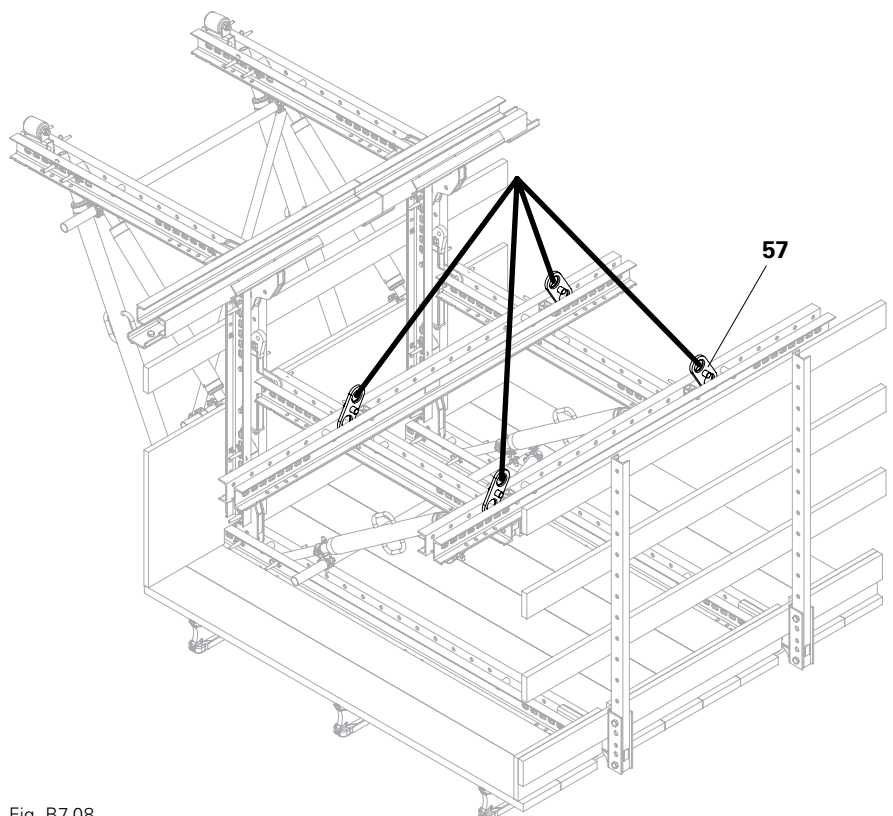

Fig. B7.08
- Regarding the arrangement, ensure that the weight is evenly distributed. (Fig. B7.08 + B7.08a)